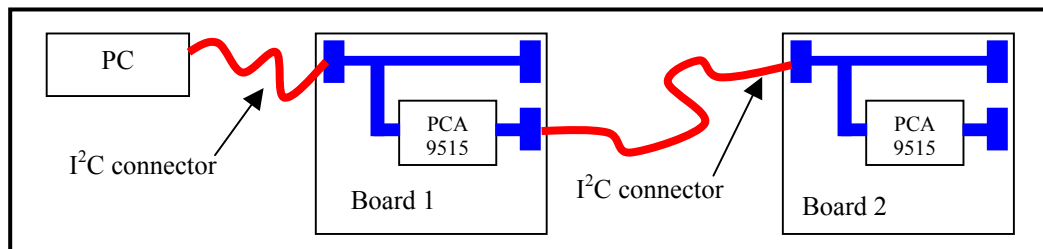

Figure 9. PCA9515 Application Example
2. Don't link PCA915 output bus SDA0/SCL0 to the corresponding SDA0/SCL0 header of PCA915 on a second board. Be sure to make this connection to SDA/SCL on the second board as shown in Fig. 9.